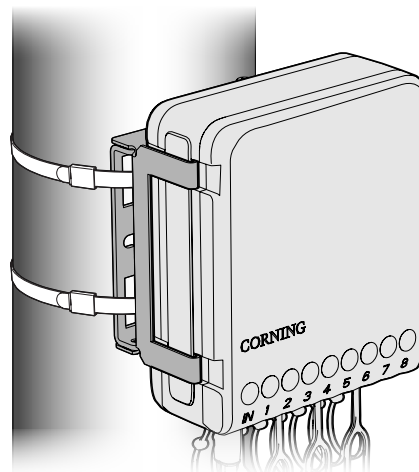

Figure 14
Step 3: Secure the straps to the pole using a Band-It-type tool (Figure 14).